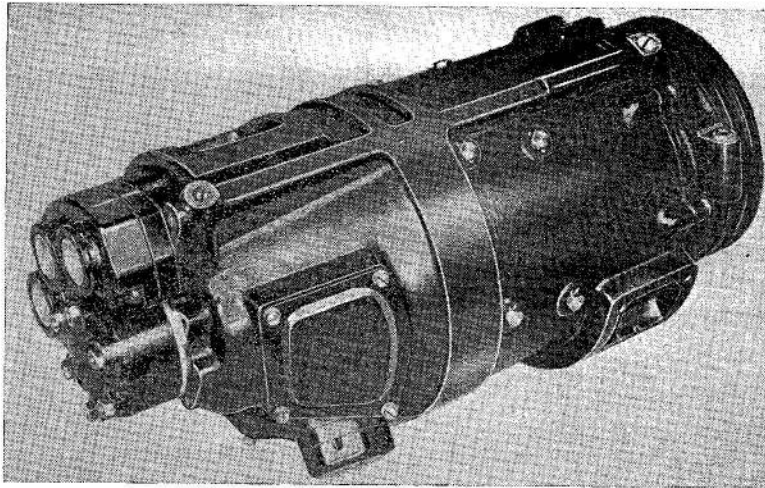

Fig. 1. Generator, Type LA3016, Form B/5
1. The Type LA3016, Form B/5 a.c. generator (*fig. 1*) is an engine driven, blast cooled machine designed to supply power over a range of engine speeds as shown in the Leading Particulars.